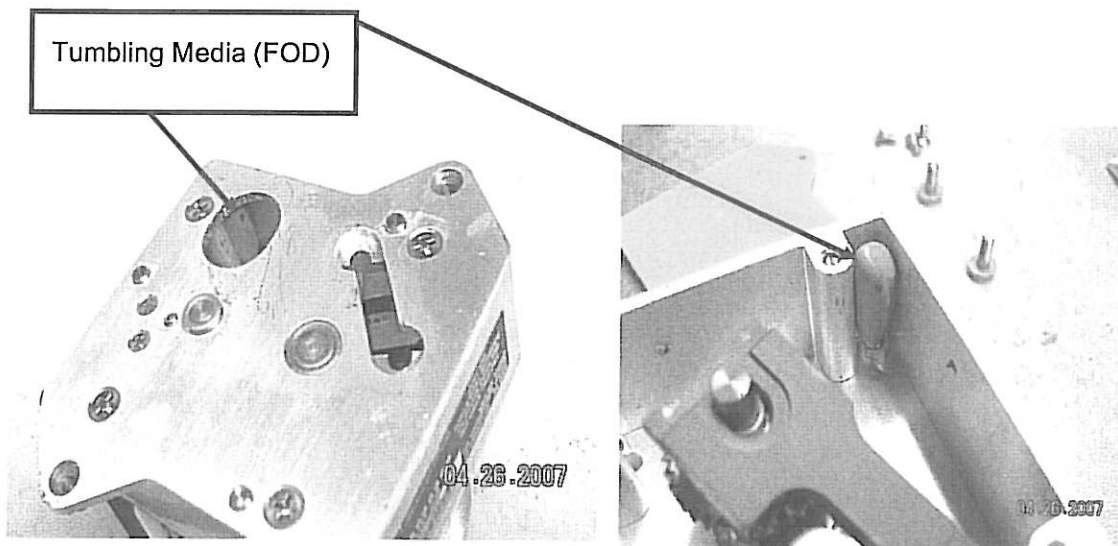

Figure 4-1
- 4.3 Maneuver the borescope to view all potential areas where foreign objects (FOD) may be present, particularly in the corners of the extrusion (Figure 4-1). Also look closely at the gears for the presence of FOD, rotate the gears to view all potential areas for FOD. FOD may be present anywhere inside of the extrusion, not only where shown in Figure 4-1.